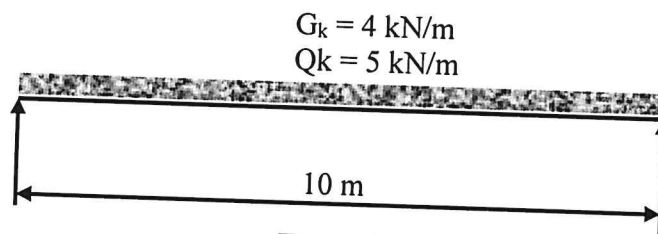

Figure 1
- c) Figure 1 below is a simply supported reinforced concrete rectangular beam of 275 mm width by 450 mm depth carrying uniformly distributed load including self-weight of 4 kN/m and an imposed weight of 5 kN/m. Design the beam for the following in accordance to BS 8110: